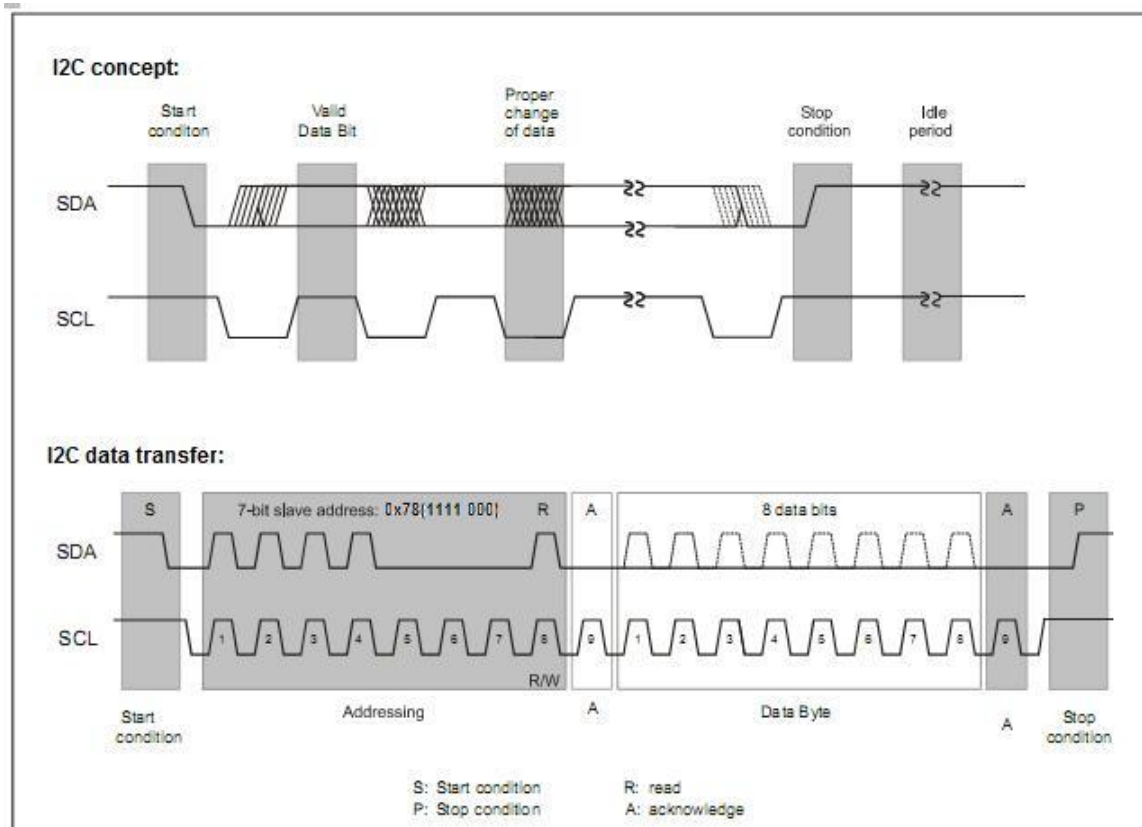

Figure 3: I2C standard communication protocol
I2C standard protocol is presented in figure 3.
- **START condition (S):** Each data transfer starts with the start condition, which is always sent by the master. This start condition acts as a signal to all I2C connected devices giving information that there will be something transmitted. A start condition is defined as the transition of HIGH to LOW on the SDA line when the SCL line is HIGH (see figure 3).
- **STOP condition (P):** Each data transfer stops with a stop condition, which is also generated by a master when a data transfer has finished. The stop condition is defined as the transition of LOW to HIGH on the SDA line when the SCL line is HIGH (see figure 3).
- **Valid data:** Data is always transmitted in bytes (8 bits) starting with the MSB (most significant bit). One data bit is transferred with each clock pulse. Transmitted data are valid (after generating start condition) only during the HIGH period of the clock and data can changes can be done during the LOW period of the clock (see figure 3).
- **Acknowledge (A):** Each sent byte needs to be followed with the acknowledge bit generated from the receiver that corrects data has been received. Acknowledge means also that the device can continue with further data transfer. For that purpose, the master must generate an extra clock pulse. Transmitter releases clock HIGH during acknowledge clock pulse, if not then further byte will not be sent.
- **Slave address:** After the start condition master sends addressing byte - slave address to define with which slave device he wants to communicate. This addressing byte includes a 7-bit slave address (up to 128 devices) + 1 R/W bit (data direction bit). If the R/W bit is set to "0" (W) then the master wishes to transmit data to the selected slave. If the R/W bit is set to "1" (R) then the master request data from the slave. The addressed slave answers with an acknowledge, all other slaves connected with the I2C-bus ignore this communication.
In figure 3 is presented complete data transfer. After generating the start condition master also sends the slave address with data direction bit (R/W), which gives information about read or write transfer. Addressed slave replies to this always with acknowledge (A) bit first. Now the unlimited numbers of data (bytes) can be transferred (every transferred byte needs to be confirmed with acknowledge bit). This transfer can be stopped by the master with generating the stop condition. If the master wishes to communicate also with other slave address, it can generate also a second start condition without stopping the first one.